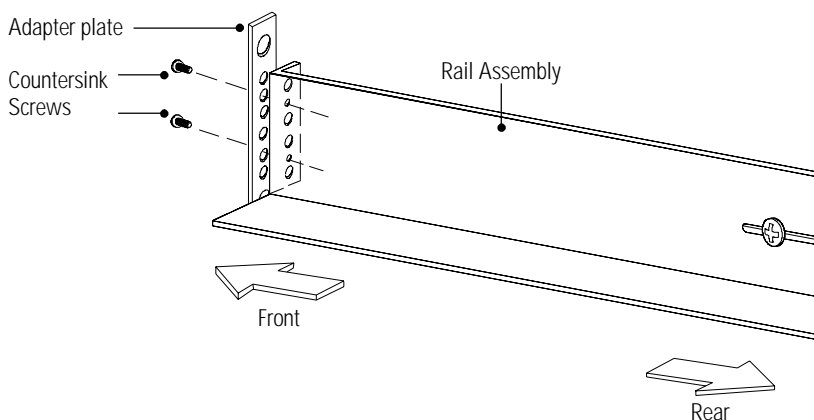

Figure 1. Changing the Adapter Plate
2. For all other rack types, remove the 0.375 adapter plates from both rack assemblies (see Figure 1).